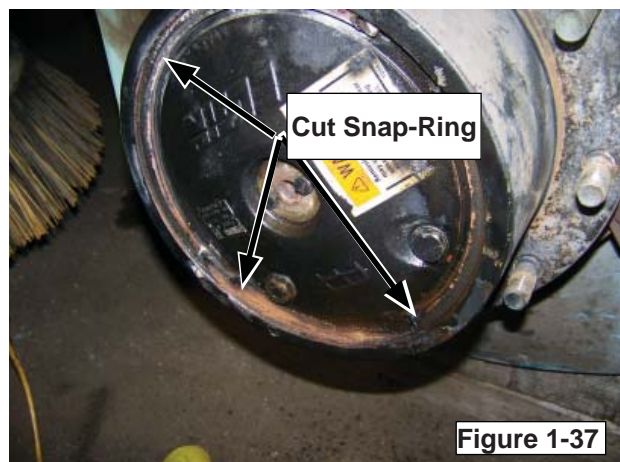

Figure 1-37
- Cut the snap-ring in 3 or 4 places and remove the individual pieces using a hammer and chisel. Do not damage the hub casting (FIGURE 1-37).